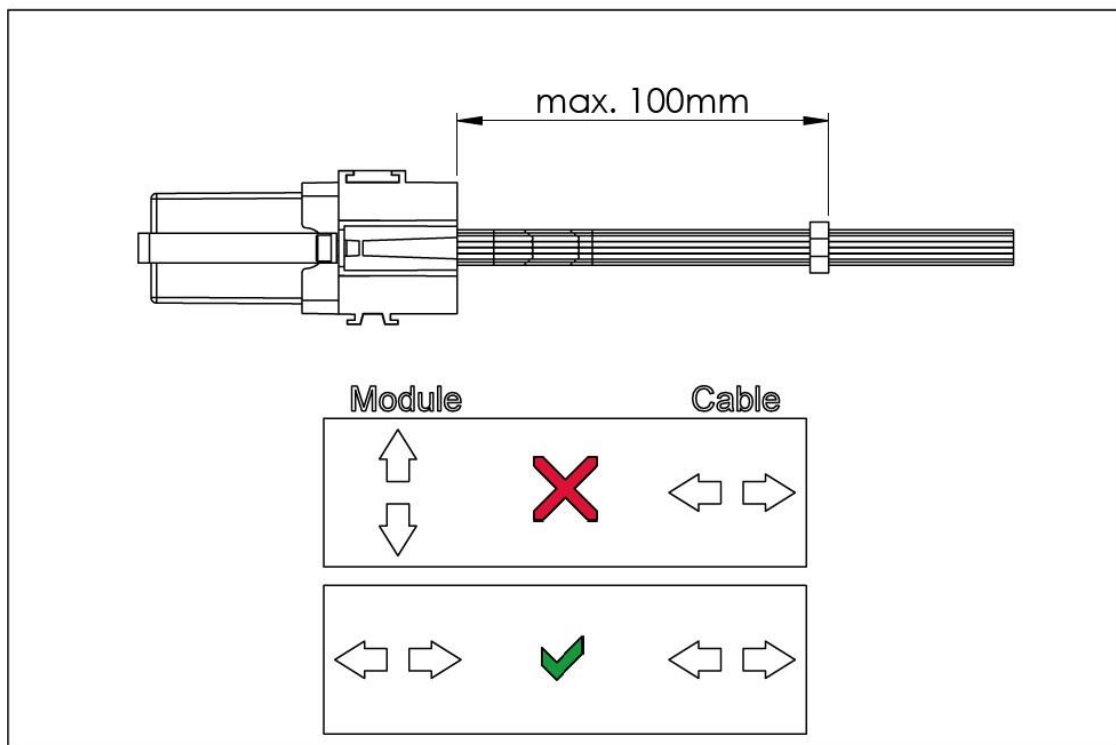

Figure 1: Strain relief of the cable harness (example). 100 mm (max.) are mandatory.
- The cable routing must be selected in such a way that the cable harness only moves identically to the direction of movement of the controller/plug. (Attachment controller/cable/strain relief on the same underground). A strain relief is necessary (see Figure 1).